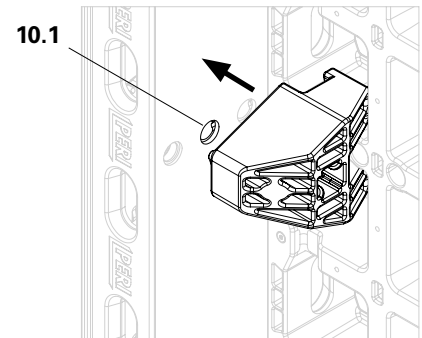

Fig. A3.08b
4. Insert the steel pin (**23.4**) of the DUO corner connector into the appropriate tie point (**10.1**) of the DMP 75 multi panel (**12.2**). (Fig. A3.08b)